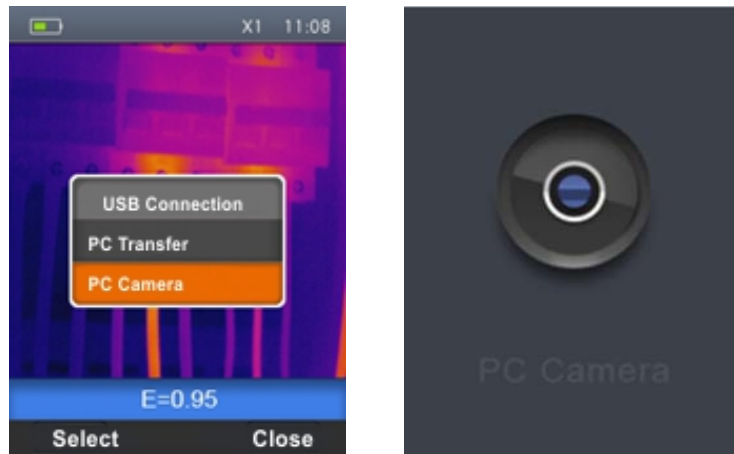

Fig. 33: Displaying an image on the PC in real time
1. Connect the USB cable to the instrument (see Fig. 2 – Part 19) and to the PC. The following screen (see Fig. 33 – Left side) is shown on the display:
2. Use the keys \oplus or \ominus to select the option “PC Camera” and press the “Select” key. The screen Fig. 33 – Right side is shown on the display.